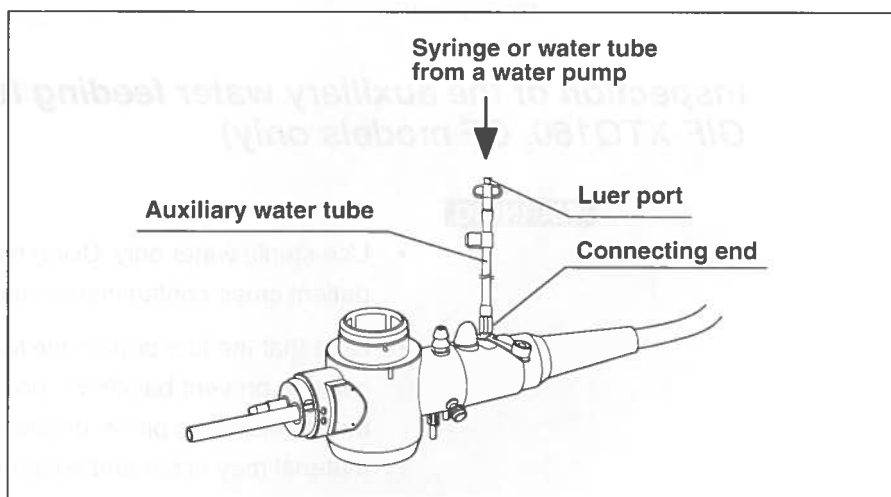

Figure 3.19
1. Attach a syringe containing sterile water or the water tube from a water pump to the luer port of the auxiliary water tube (see Figure 3.19). Feed water and confirm that water is emitted from the auxiliary water channel at the distal end of the insertion tube.